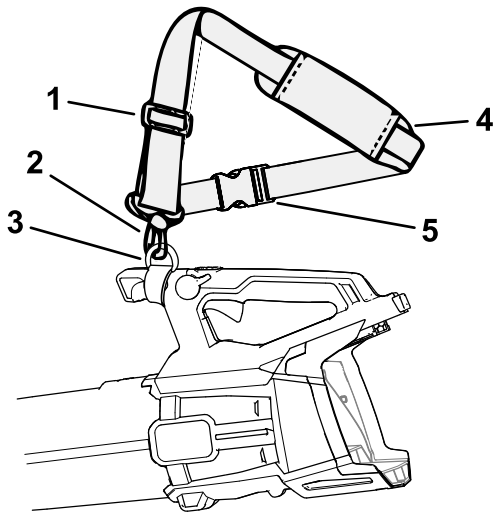

**Figure 5**
1. Install the collar to the handle knob (Figure 5).